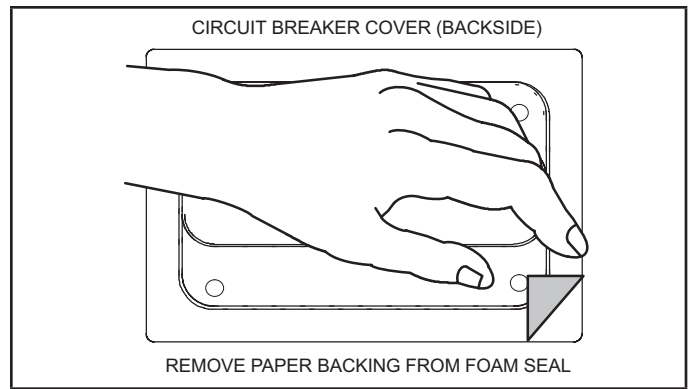

FIGURE 8. Remove Paper Backing
- 2 - Remove paper backing from seal around perimeter of circuit breaker cover (figure 8).